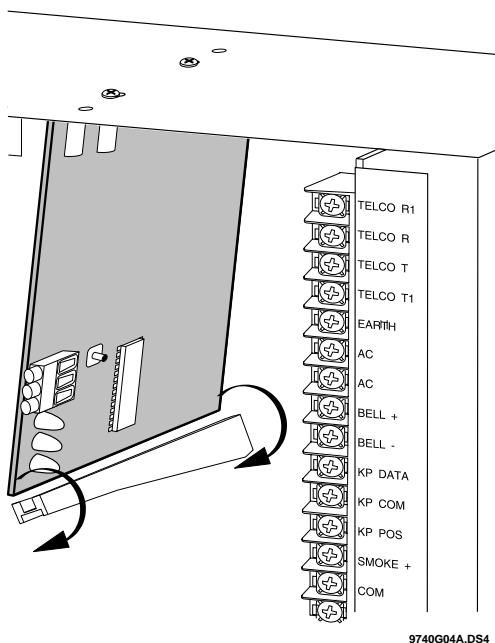

Figure 3. Installing the Module into the Cabinet
- 3) Install the module into the cabinet by turning the stand-off sideways, then slide the module up onto the ground plane screw posts (see Figure 3).